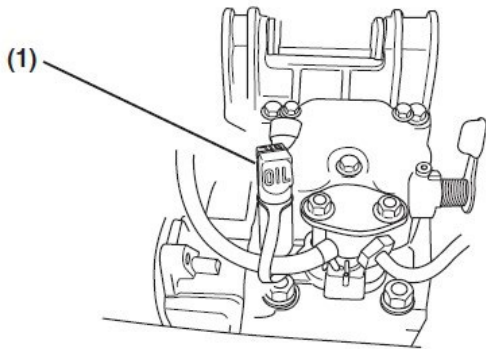

Figure 6
1. Remove the oil plug **(Figure 6, (1))**.
3. Reinsert the oil plug **(Figure 6, (1))**.